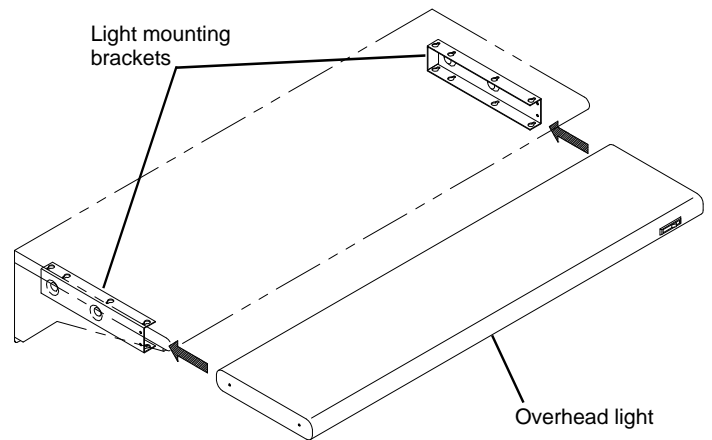

Figure 3
- Attach the Light Mounting Brackets to the underside of the shelf using four #10AB x 3/4" phillips pan head screws provided. See **Figure 3**.
6. Install the light into the brackets with the on/off switch toward the front. See **Figure 3**.